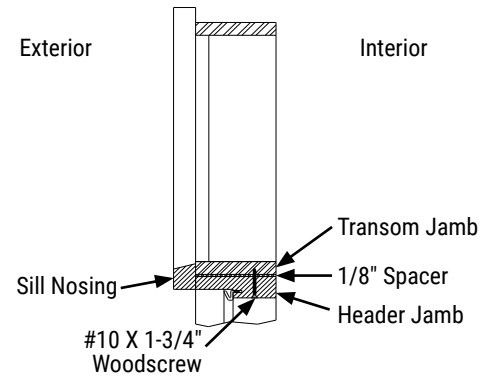
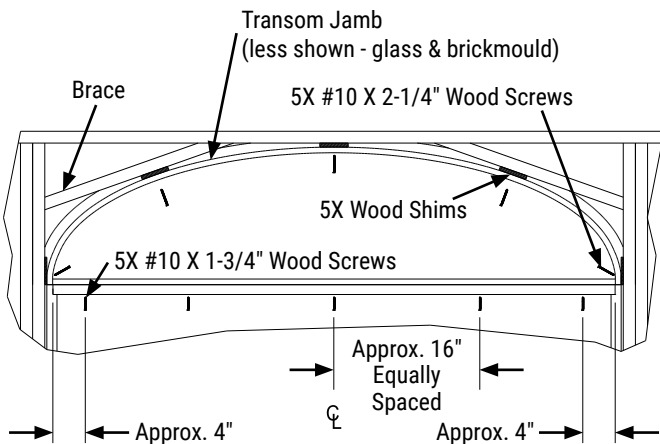

**Figure 2a**
**Figure 2b**
**2 To install a pre-hung / transom combo:** When installing the transom with a pre-hung, also refer to pre-hung installation instruction that came with the pre-hung. Apply a generous amount of silicone exterior sealant on the bottom side of the transom jamb and on the inside of the transom brickmould, as shown in **Figure 2a**. Make sure that the transom's brickmould is flush against the outside edge of the header on the pre-hung system. Once the transom is centered, flush and plumb, fasten together with (5) #10 X 1-3/4" wood screws, as shown in **Figure 2b**.